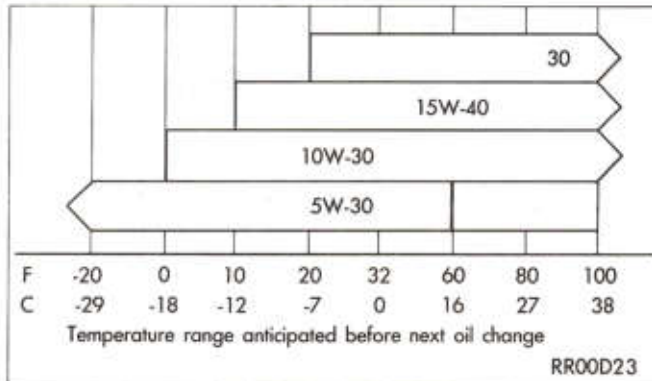

Fig. 1—Recommended Viscosity Grades
grades are shown in (Fig. 1). Only oils with the proper API quality classification should be used when adding or changing the crankcase engine oil. **NONDETERGENT OR STRAIGHT MINERAL OILS MUST NEVER BE USED.**
- (2) Have the proper SAE grade number for the expected ambient temperature range as indicated in (Fig. 1).
Low viscosity oils make engine starting easier in cold weather. As stated in the chart (Fig. 1), oils of the SAE 5W-30 or 5W-40 grade number are preferred when minimum temperatures consistently fall below +10°F (-12°C) (Fig. 3).